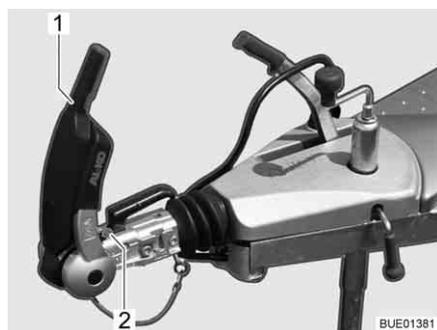

Fig. 199 Display friction pads, front and back
- Open the stabilising handle (Fig. 199,1).
The check is made using the indicator in front of the coupling handle (Fig. 199,2).